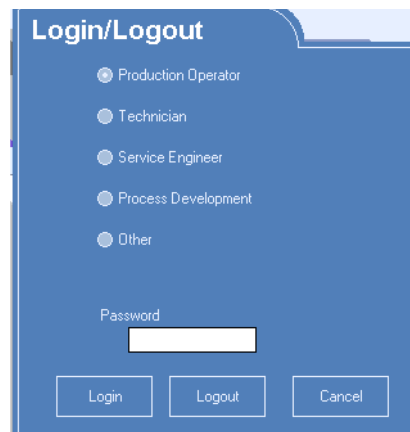

Figure 3.4 Login Dialogue
2. The Login dialogue is displayed, as shown in Figure 3.4.
1. Select the **Logout** icon from the title panel (see Figure 3.3). The Login dialogue is displayed, as shown in Figure 3.4.